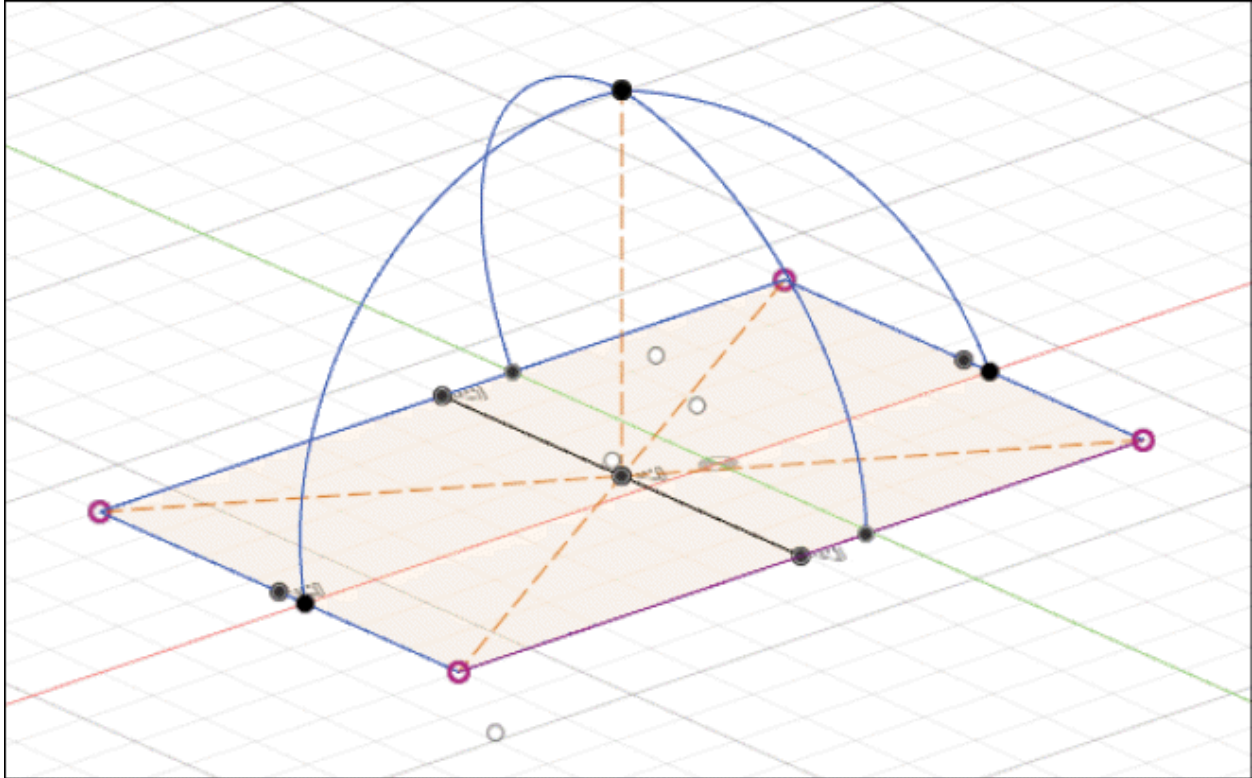

Figure-13. Sketch for using Rails tool
- In this case, we have created a sketch of tent like structure using a rectangle and four arcs (to be used as rail) on different planes; refer to Figure-13.